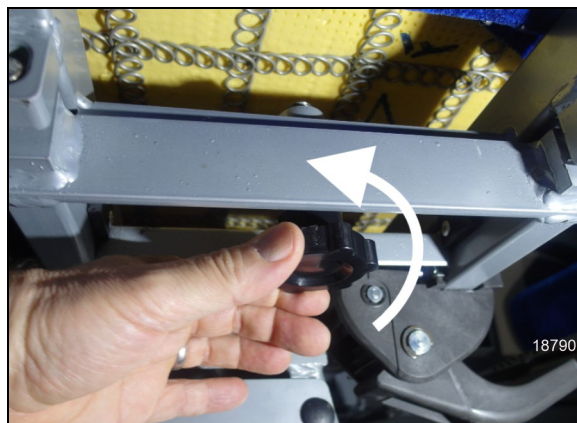

FIGURE 31: LOOSEN THE KNOB
1. Loosen completely the threaded-stud knob under the seat on the aisle side (Figure 31).